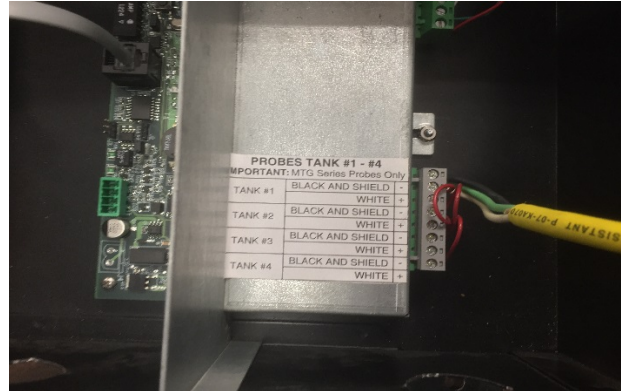

Figure 11.1
- If there is more than one probe, swap probe inputs and see if problem stays with probe. (Figure 11.1)